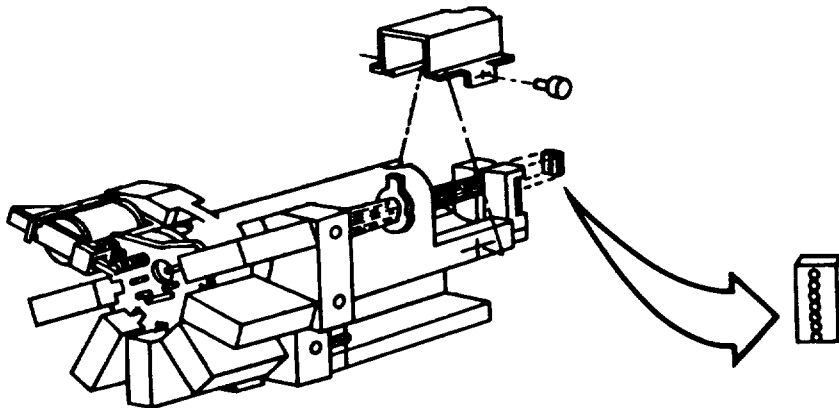
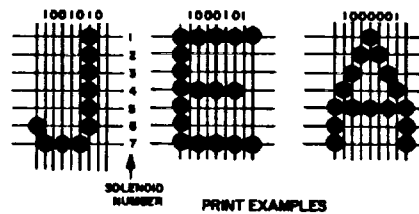

Figure 2-1. Console Printer Printhead Assembly
Figure 2-2. Console Printer Print Example
a. The printhead assembly (fig. 2-1), is a serial 7 x 9 dot matrix printer, each printed character consisting of a series of dots. When printing a dot, a driver transistor applies a voltage to the head solenoid. The arm moves and forces the wire needle forward, causing it to strike the ribbon and the paper. A return spring returns the wire needle to its home position. When printing a character (fig. 2-2) the same solenoid may fire as many as five times. For instance, when the character E is printed, all seven solenoids fire once, then solenoids 1, 4, and 7 fire three times. Finally, solenoids 1 and 7 fire once. When the head stops, the character E has been printed. The maximum number of vertical dots for any character is 7. The maximum number of horizontal dots for a straight line is 5. If the horizontal line is curved, the number of horizontal dots can reach 9, as in the character A.